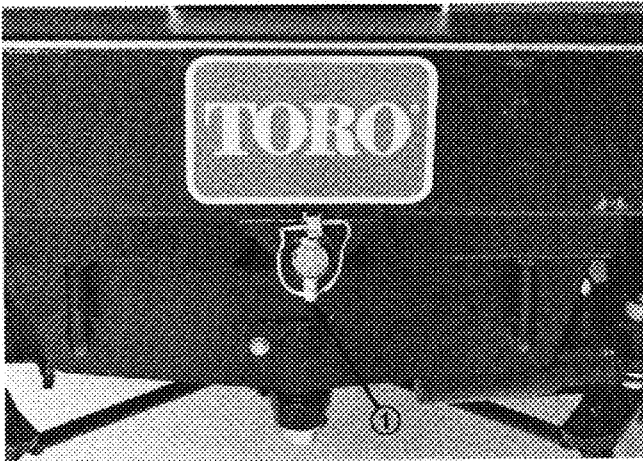

Figure 9
10. Mount bottom of bracket to frame with (2) 1/2 - 13 x 1-1/2" lg. capscrews, mounting strap, 1/2 flatwashers and locknuts. Strap to be positioned between frame and washers.
12. Secure rear of frame to bracket pin with disconnect pin (Fig. 9).